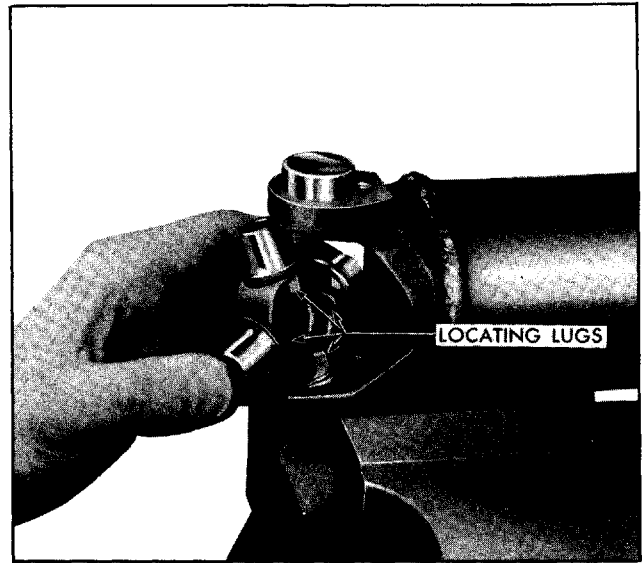

Fig. 4-54 Correct Installation of Journal in Yoke
b. Position journal, with dust shields installed, between arms of yoke and place journal in partially installed bearing. **NOTE:** Journal assembly must be installed so locating lugs are facing toward propeller shaft (Fig. 4-54).